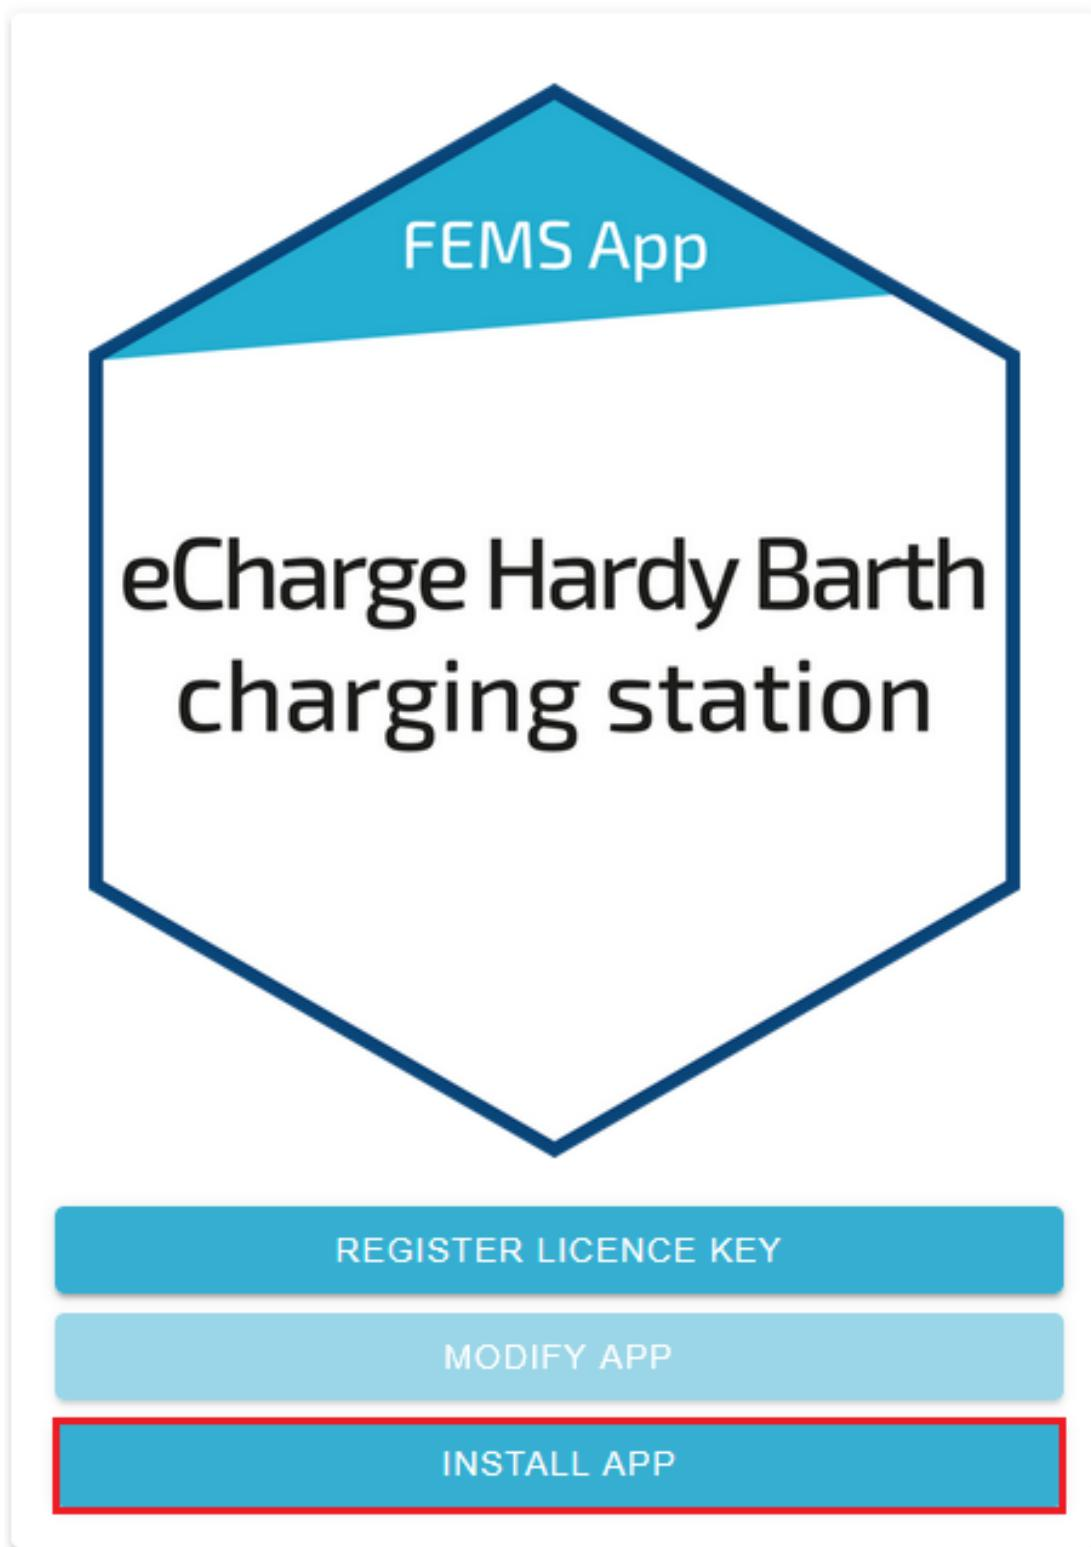

Figure 23. App installation — Variant 2: Step 4
- Figure 23. App installation — Variant 2: Step 4